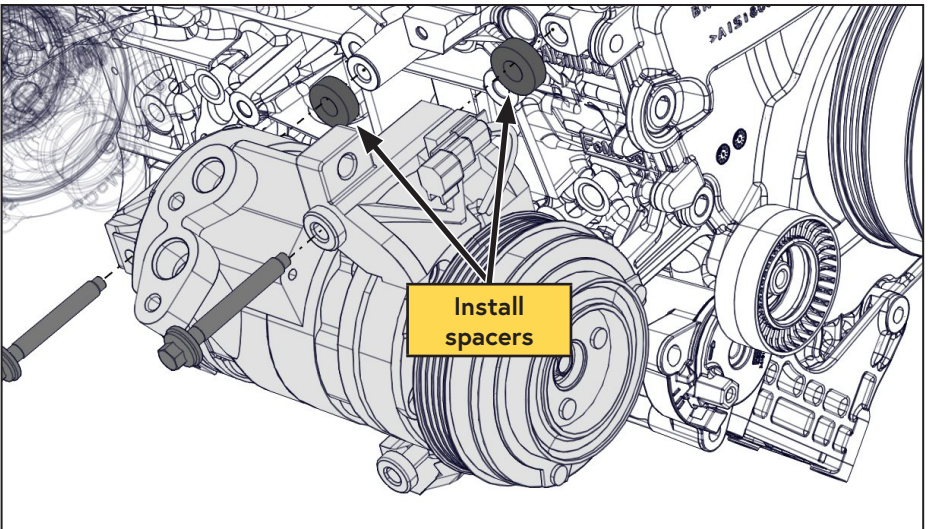

Figure 20 — A/C compressor spacers
- Remove the top A/C compressor bolts one at a time and install the supplied spacer between the A/C compressor and the engine. Reinsert the A/C compressor bolt until the threads are just engaged and the A/C compressor is still supported (Figure 20).